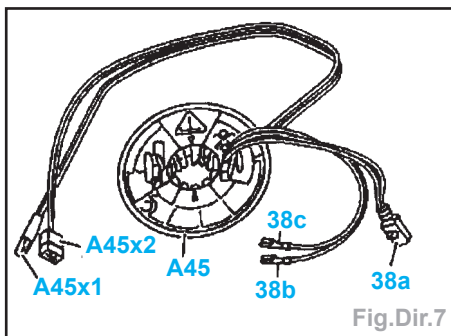

Fig.Dir.7
- 2^{ème} version de spirale (Fig.Dir.7).